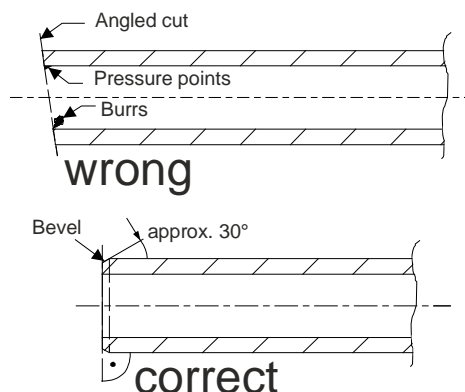

Fig. 6 Cutting the tubes
- The tubes must be cut to size using a pipe cutter. In doing so, ensure that the cut is at a right-angle to the tube axis. Remove any projecting burrs, **Fig. 6**.
- The ends of the individual tube pieces are to be bevelled slightly using a suitable tool, e.g. slightly bevel with a pipe scraper, **Fig. 6**.